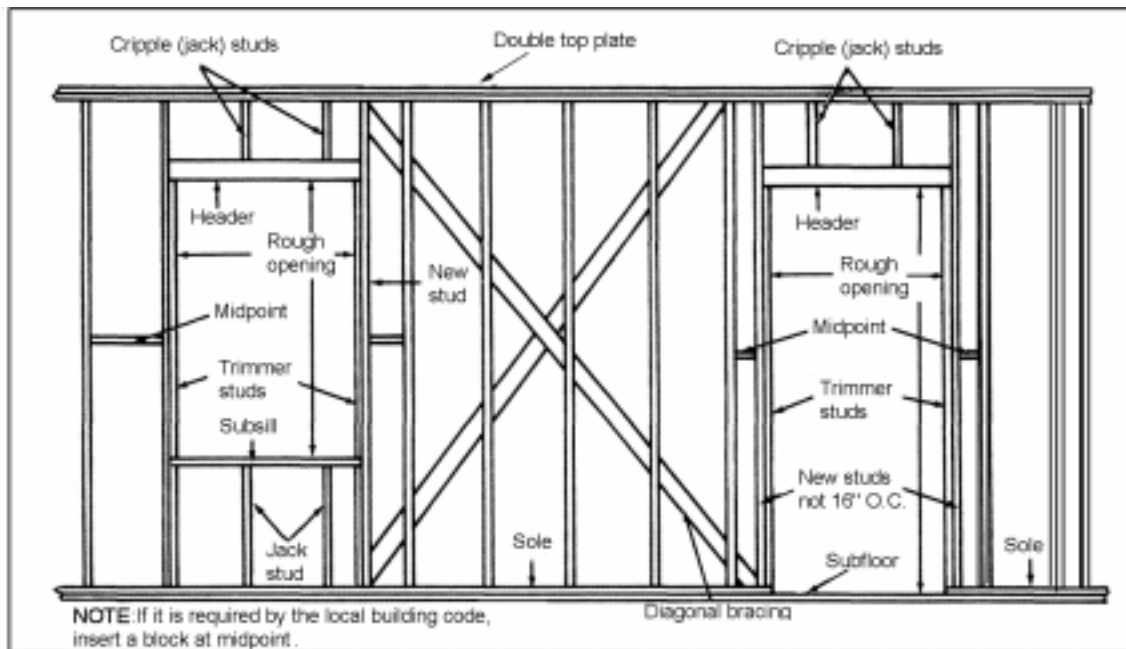

Figure 051-236-1203-1
2. Identify the following wall-system components (Figure 051-236-1203-1):